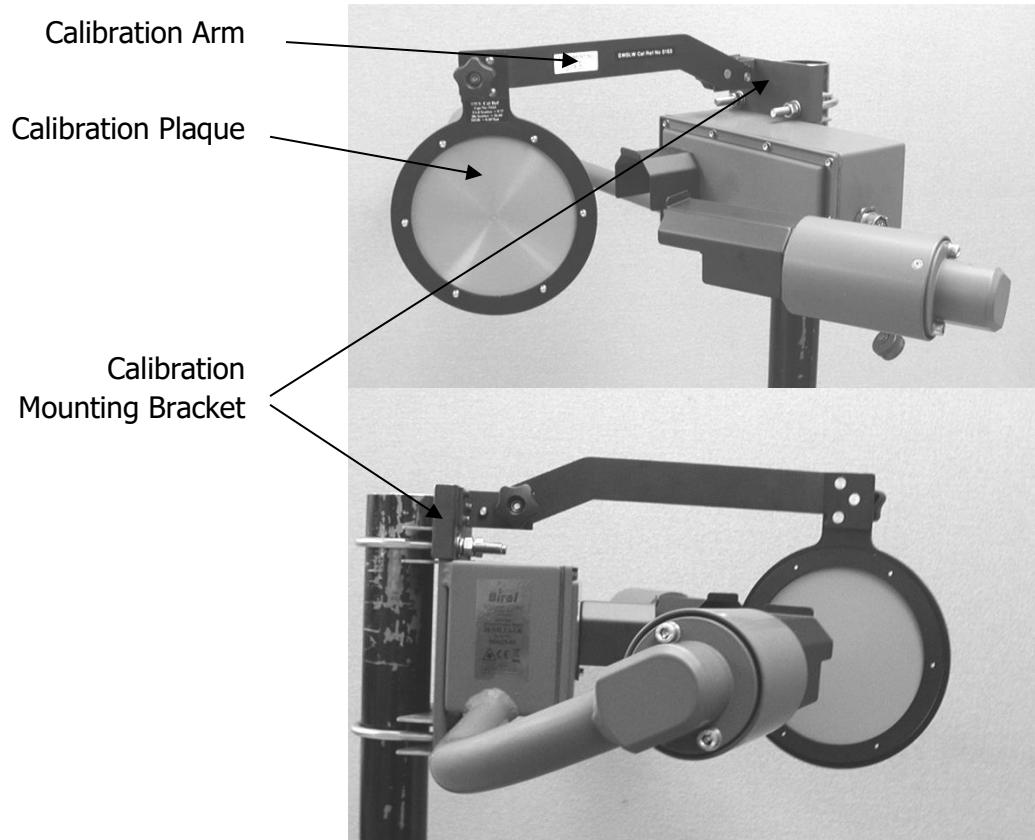

Figure 5-1 Calibration Plaque Mounting Details
The SWS Lightweight sensor requires a calibration plaque mounting bracket to be attached to the support pole using the upper sensor U-Bolt mounting. This bracket is supplied with the calibration kit, but can be supplied separately if more than one sensor is to be calibrated using a single calibration kit. This bracket is shown in place in Figure 5-1 Calibration Plaque Mounting Details.
The round calibration screen should first be attached to the calibration arm, and this assembly should then be attached to the mounting bracket as shown in Figure 5-1 Calibration Plaque Mounting Details.
STEP 2: Attach the calibration reference plaque to the sensor as shown in Figure 5-1 (power to the sensor need not be removed). Do not stand close to the sensor during calibration as reflections may cause errors in the reported values.